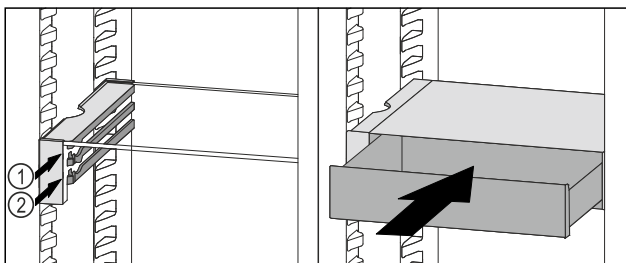

Fig. 136
- Place the VarioSafe drawer behind the stoppers on desired rib Fig. 136 (1) or Fig. 136 (2).